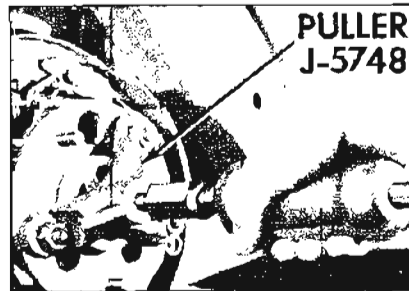

Figure 6-5—Removing Rear Axle Shaft
4. Pull out axle shaft assemblies using Puller J-5748 and Adapter J-2819-4 with a slide hammer. See Figure 6-5.